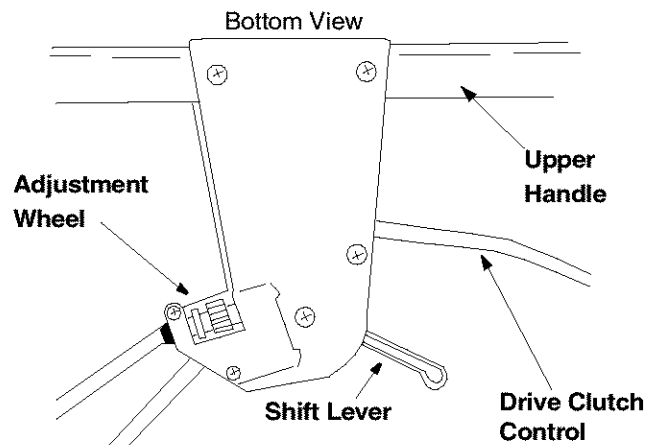

Figure 13
- To resolve the above problems, rotate the adjustment wheel with your fingers: clockwise to tighten the cable and counter-clockwise to loosen the cable. See Figure 13.
- Start engine and place shift lever in the third speed position. Refer to Figure 13.